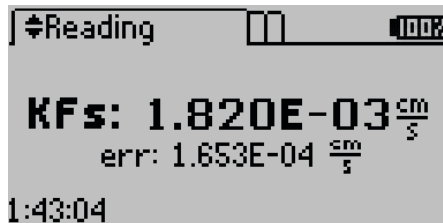

Figure 18 Results screen
- **Results Screen.** After a test is complete, the Results screen replaces the Status screen. It shows the resulting K_{fs} of the test (Figure 18). The error (err) value also appears on the Results screen. The err is the standard error of the K_{fs} reading and represents the amount of noise in the measurement. Press **UP** and **DOWN** to change Reading screens or press the **POWER/MENU** button to navigate to the Configuration tab.